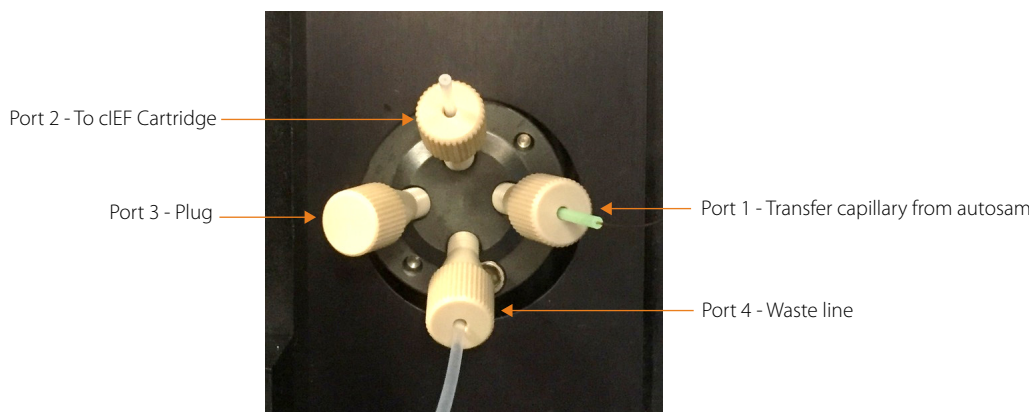

Figure 4-19: iCE valve connections.
1. Insert the fitting side of the waste line (P/N 045-089) into port 4 of the iCE valve (Figure 4-19) and tighten finger-tight.
1. Insert the fitting side of the waste line (P/N 045-089) into port 4 of the iCE3 valve (Figure 4-19) and tighten finger-tight.